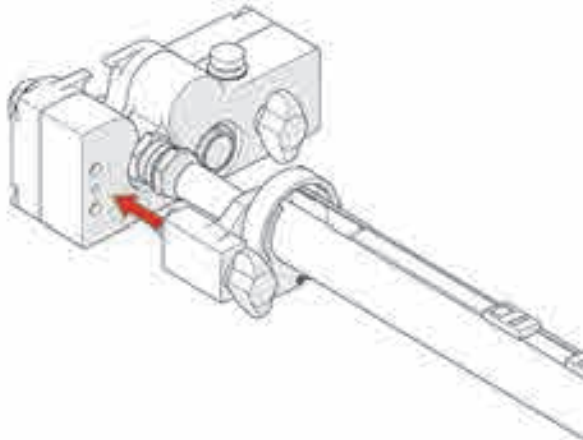

Figure 4-128 Align with umbilical
1. Align the cable management clamp with the appropriate mounting position on the umbilical (see Figure 4-128 on page 189).